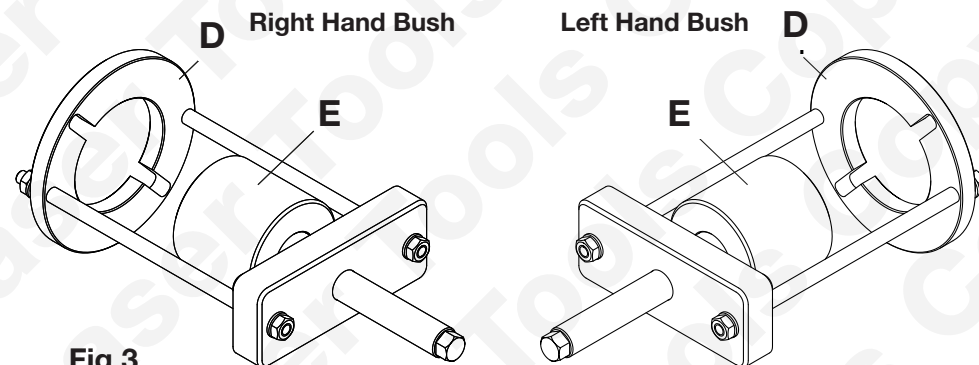
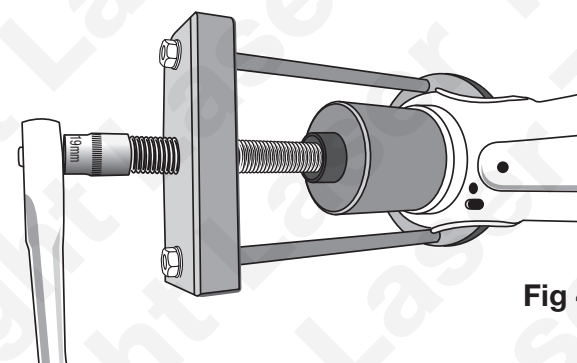

Fig 3
Fig 4
- Using the components shown in Fig 3 mount the bush tool on the arm as shown and push out the old bush by turning the force screw in a clockwise direction as shown in Fig 4: